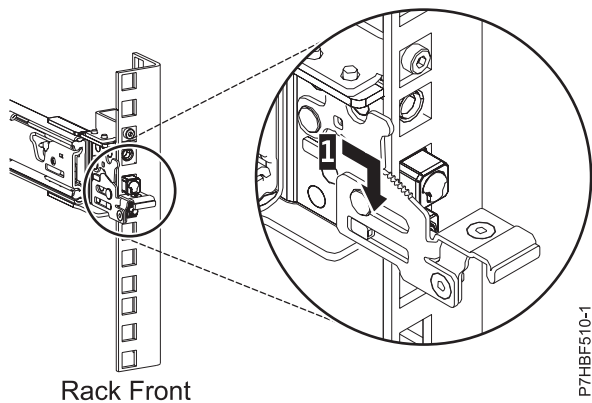

Figure 6. Front rail of the rack with pins seated
4. Pull the slide rail forward and insert the two pins (1) on the front of the rail into the two lower holes of the EIA marked on the front of the rack. Drop the rail into place until it clicks into place, as shown in Figure 6.